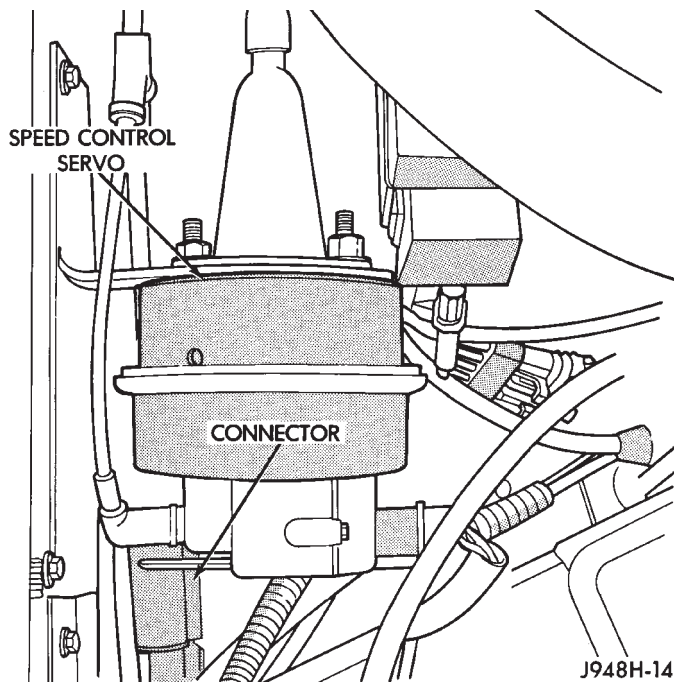

Fig. 2 Servo And Harness Connector—Left Hand Drive
(1) Turn ignition switch to the ON position. With speed control switch in the ON position, setup a voltmeter to read battery voltage and connect negative lead to a good chassis ground.
(2) Disconnect 4-way connector going to servo (Figs. 2 and 3). Blue wire with red tracer of main harness 4-way connector should read approximately battery voltage. If not, check for loose connections, brake switch adjustment or, repair main harness as necessary.
(3) Connect a jumper wire between male and female terminals of blue wire with red tracer. The other 3 male terminals from servo should show battery voltage. If not, replace servo.
(4) Using an ohmmeter, connect one lead to a good body ground. Touch other lead to black wire terminal in 4-way connector of main harness. Meter should show continuity. If not, repair ground circuit as necessary.